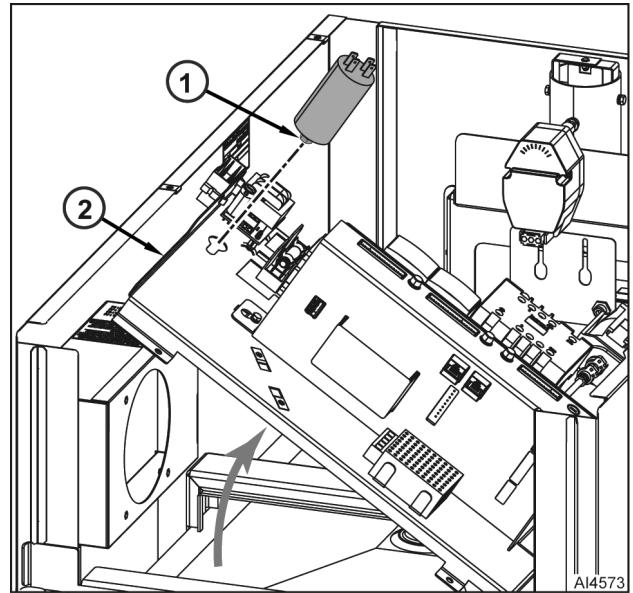

Fig. 20
8. Lift up left side of electronics mounting plate (2, Fig. 20) and loosen nut (1) that secures capacitor to electronics mounting plate.